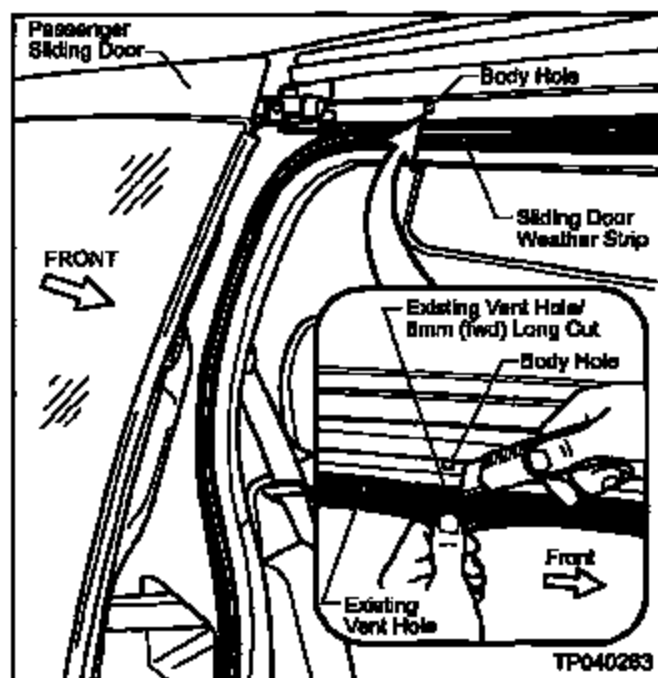

Figure J6
9. At the existing Weather-Strip vent hole located below or to the rear (towards the rear of the vehicle) of the Body Hole, carefully cut a 6 mm long slot (towards the front of the vehicle). See Figure J6.